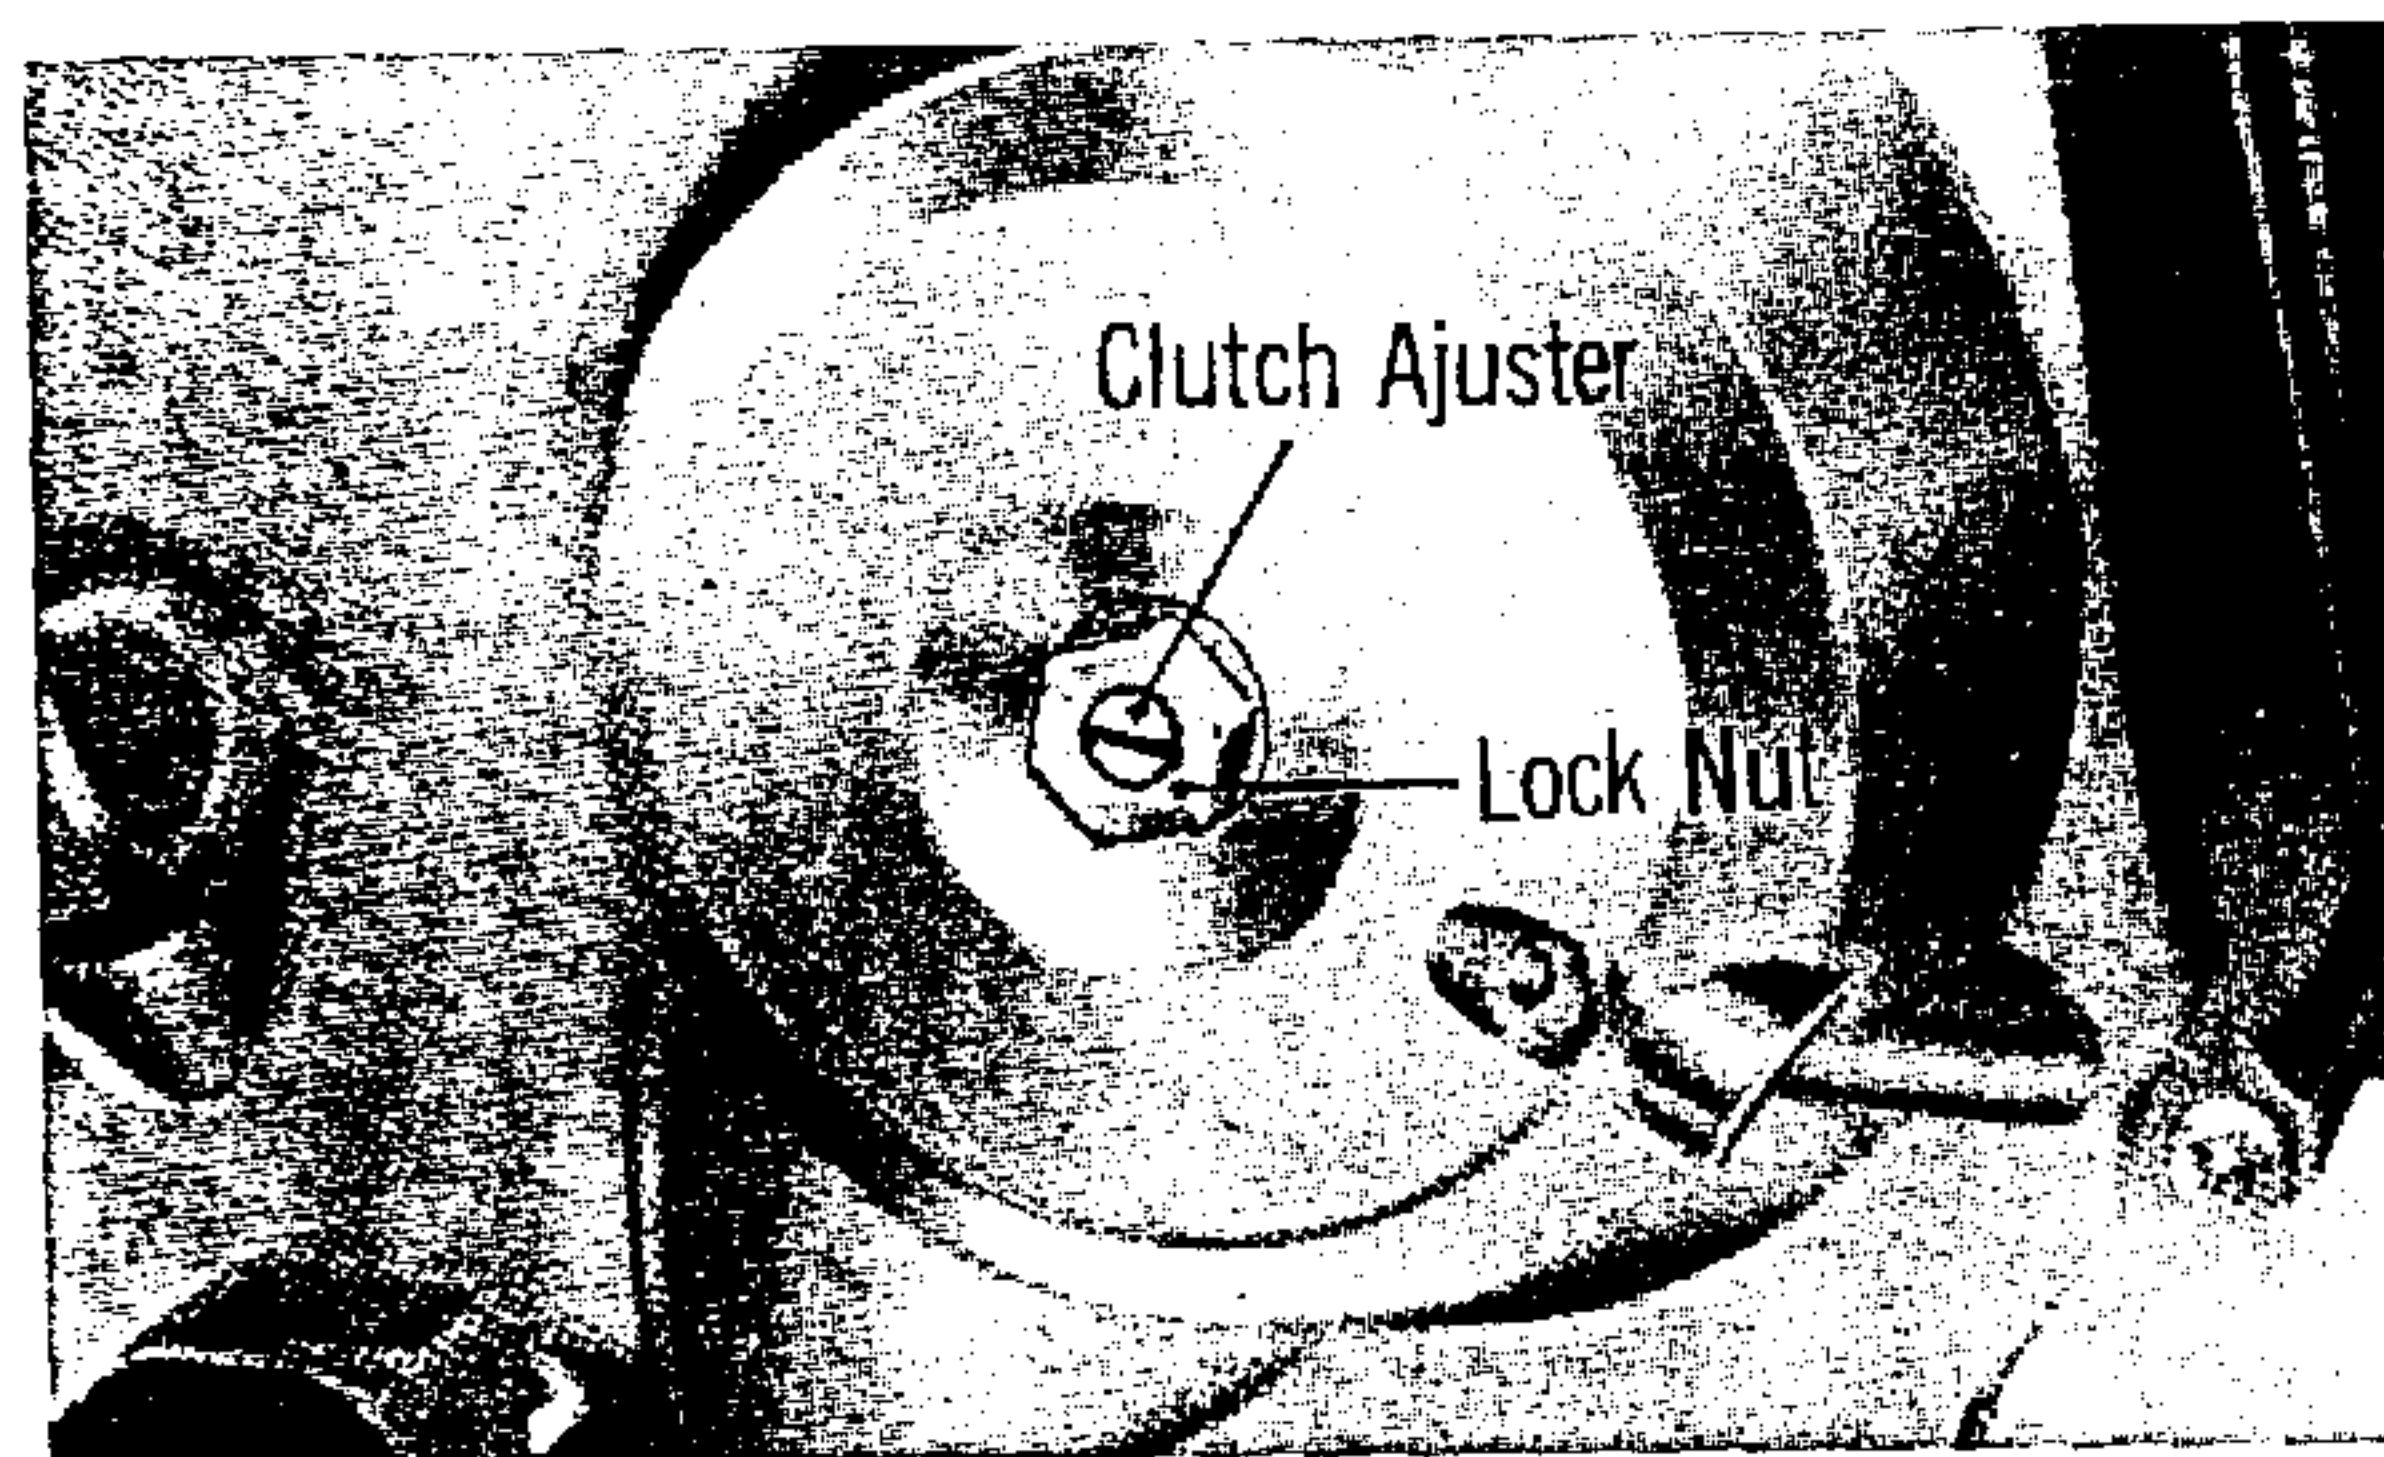

Fig. 38-1 (ST 50-70, CT 70, K1, K2, K3)
- d. From this point, back off the adjuster in the clockwise direction 1/8 to 1/4 turn, and tighten the lock nut (Fig. 38-1).